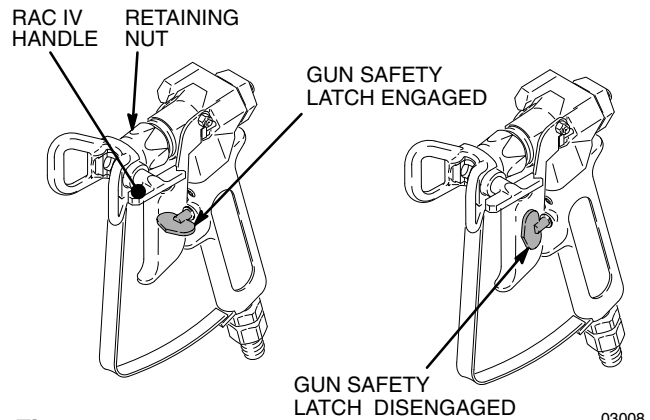

Fig. 5
- a. Open (handle down) pressure drain valve (G). If no secondary hose is installed, be sure secondary outlet cap is installed. Turn ON/OFF (L) switch ON. Slowly turn pressure adjusting knob clockwise until sprayer starts. When fluid comes from drain hose, close pressure drain valve (handle forward).
- b. Fig. 5. Disengage gun safety latch. Following warning, above, trigger gun until all air is forced out of system and paint flows freely from gun.
9. Fig. 5. Engage gun safety latch. Install spray tip. Install tip guard. See manual 308-644, supplied.
- c. Test spray pattern. To adjust pattern, engage gun safety latch, loosen retaining nut. Position tip guard horizontally for horizontal pattern or vertically for vertical pattern. Then tighten retaining nut. Fig. 5.
3. If spray tip clogs, release gun trigger, engage gun safety latch, and rotate RAC IV handle 180°. See Fig. 5.